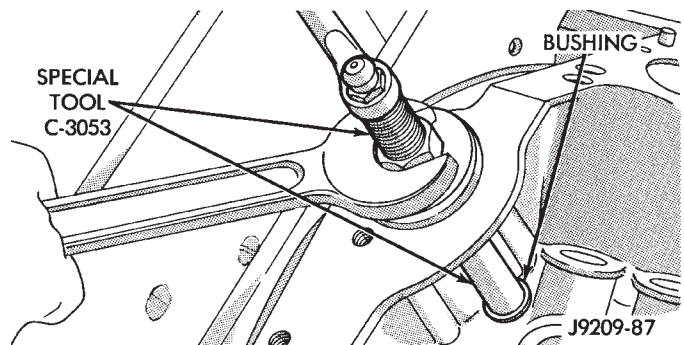

Fig. 22 Burnishing Distributor Driveshaft Bushing
- (3) As the burnisher is pulled through the bushing, the bushing is expanded tight in the block and burnished to correct size (Fig. 22). **DO NOT ream this bushing.**